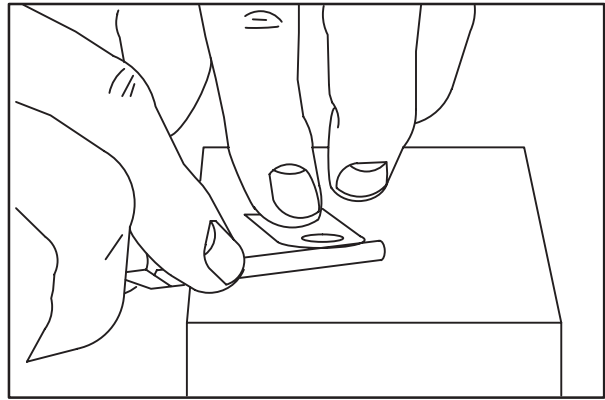

Fig. 12
4. While holding mounting surface of reed stop on flat surface, use the following drills to check reed stop height, **Fig. 12**.